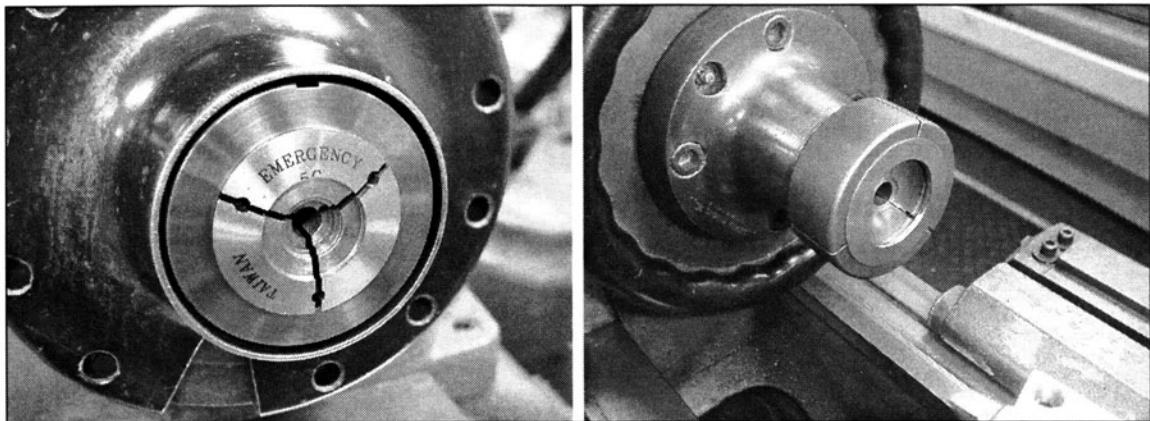

FIGURE 3-4 Emergency collets are the best way to hold thin washer type parts.
7. *Use emergency collets to make thin, washer type parts. (See Fig. 3-4)*